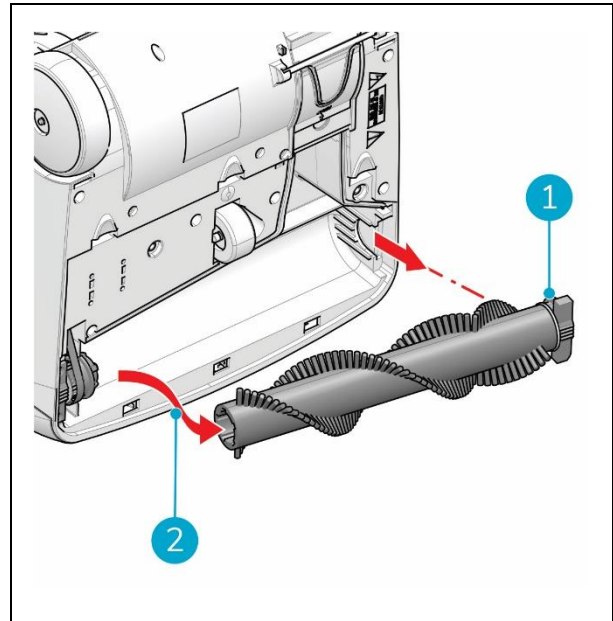

Figure 26
5. Pull out the rotating brush at the grip (Figure 26, pos 1) and slide it out as indicated at Figure 26, pos 2.